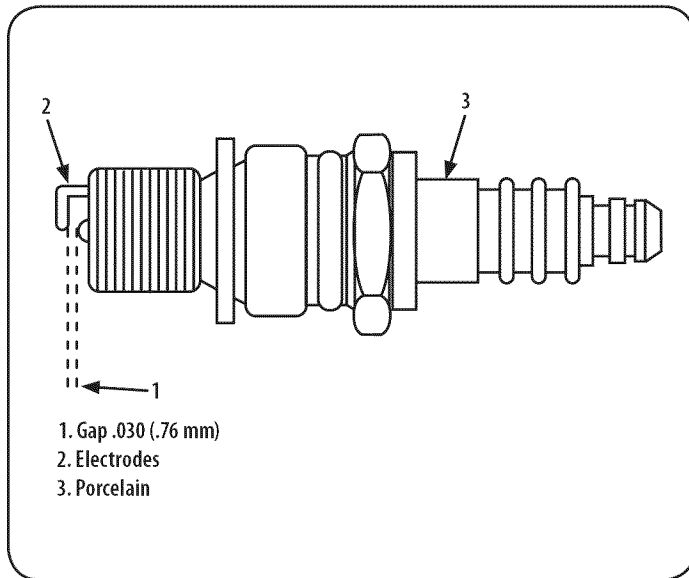

Figure 27
4. Check the electrode gap with a wire feeler gauge and reset the gap to .030 inches. See Figure 27.